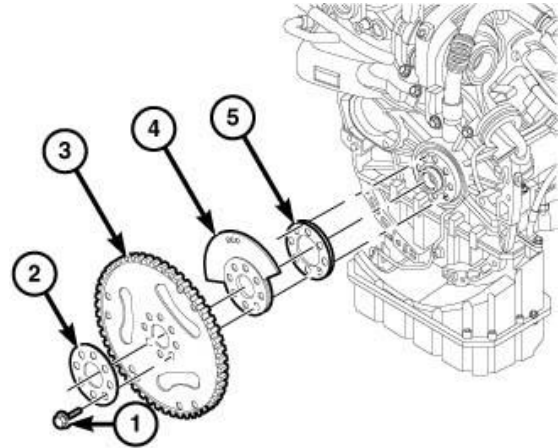

Figure 34 – Flexplate Removal
78. Remove the bolts (1), the backing plate (2) and the flexplate (3) (Figure 34).
80. Remove the counterweight (4) and tone wheel (5) (Figure 34).
1. Install the **NEW** tone wheel 68493358AA (5) (Figure 34).
2. Install the counter weight (4) and make sure the dowel pin side is inserted into the crankshaft hole for proper counter weight timing. A vibration can occur if the counter weight is installed incorrectly (Figure 34).
4. Lubricate and install the backing plate (2) and tighten the **NEW** bolts 68161231AA (1) finger tight (Figure 34).